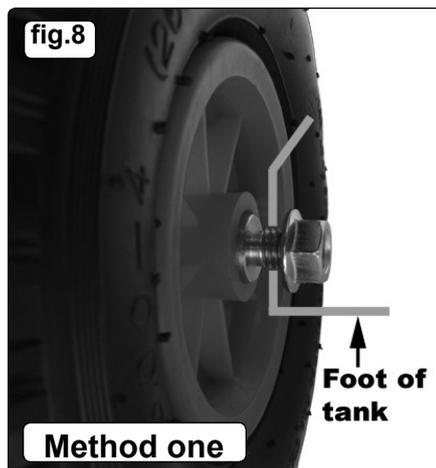
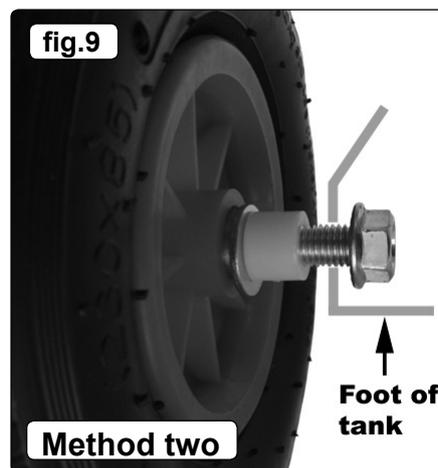

fig.8
fig.9
- 3.4. Assemble the wheels and swivel castor using the nuts, bolts and washers supplied (fig.8,9,10). For SAC3503B use "method one" (fig.8), for SAC3103B use "method 2" (fig.9).